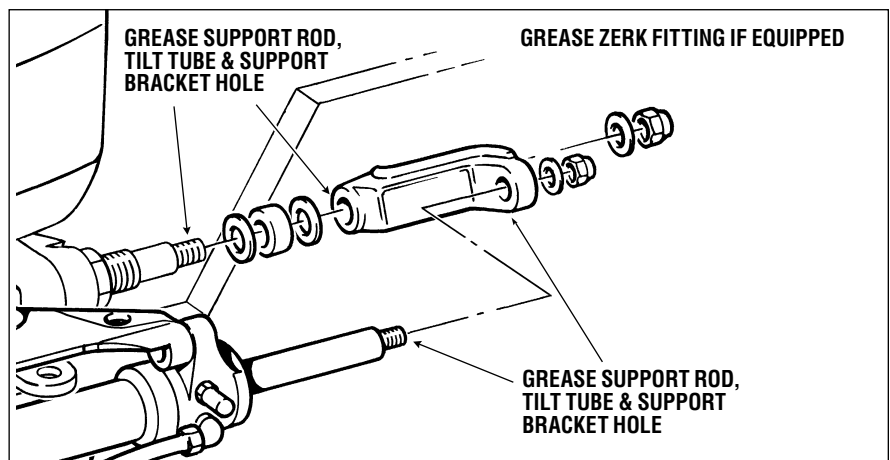

Figure 25.
4. Grease all contact points shown in figure 25. DO NOT remove tiller bolt to re-grease.